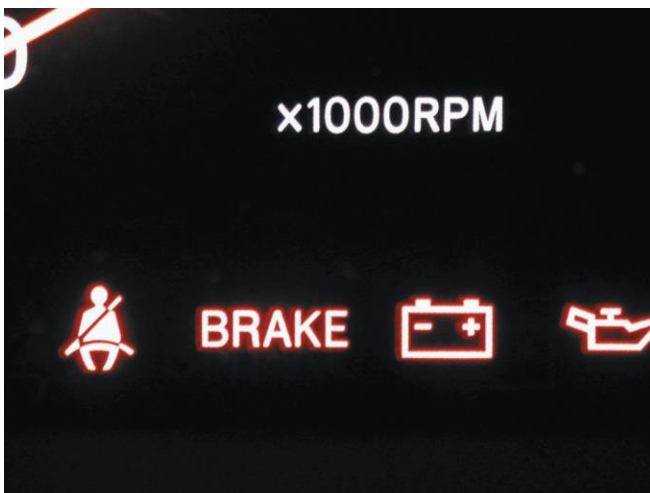

Figure 3. Brake system warning lights.
6. *Brake warning lights.* There are two brake system–related warning lights, figure 3: